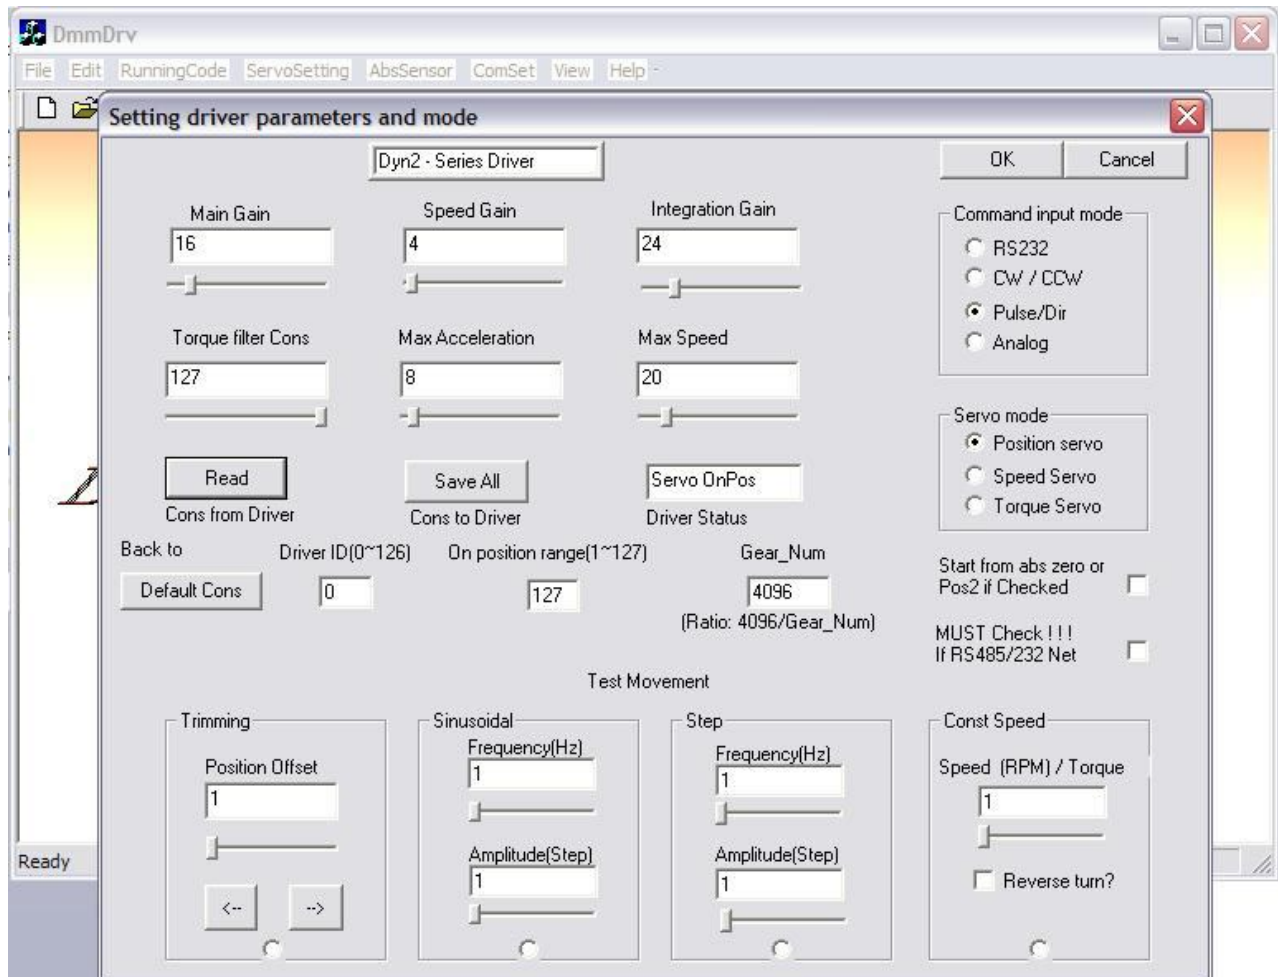

Figure 6.0
Step 2: Under *Command input mode* select the *Pulse/Dir* option (Figure 6.0) to correspond with the Step/Direction inputs used by Mach3.
Step 3: Under *Servo mode*, select *Position servo* (Figure 6.0.)
Step 4: Under the *On Position Range* parameter, change this value to 127 (Figure 6.0), so that the output Pin5 of the drive’s JP3 represents the drive fault Signal.
Note: From Figure 6.0, the 4096/Gear_Num represents the gear ratio: